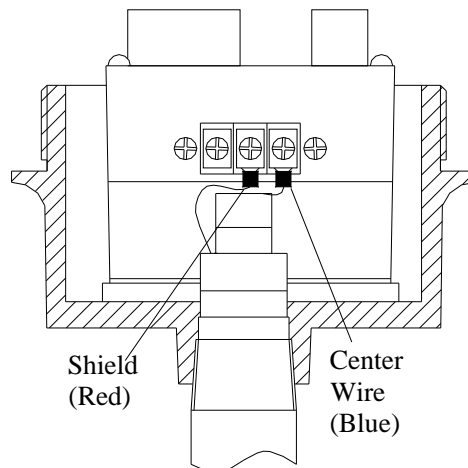

Fig4.5 Integral probe wiring
For integral mounting, the sensing element is usually pre-wired at the factory. If the system were shipped unassembled or you want to replace the cable see figure 4.5 below. All of the sensing element connections are made to the terminals on the opposite side of the power and relay connections. The shield wire (red) and the center wire (blue) are twisted, be sure the shield wire connects to the electronic unit shield terminal (DSH), the center wire connects to the center terminal (CW) . Since a metal housing is used the electronic unit ground does not have to be connected. At the probe end, connect the Center wire (blue) to the center rod of probe and the shield wire (red) to the shield of probe. See figure 4.6 system wiring. Remote wiring connections are the same as integral except the ground wire is connected at both the probe and electronic units.